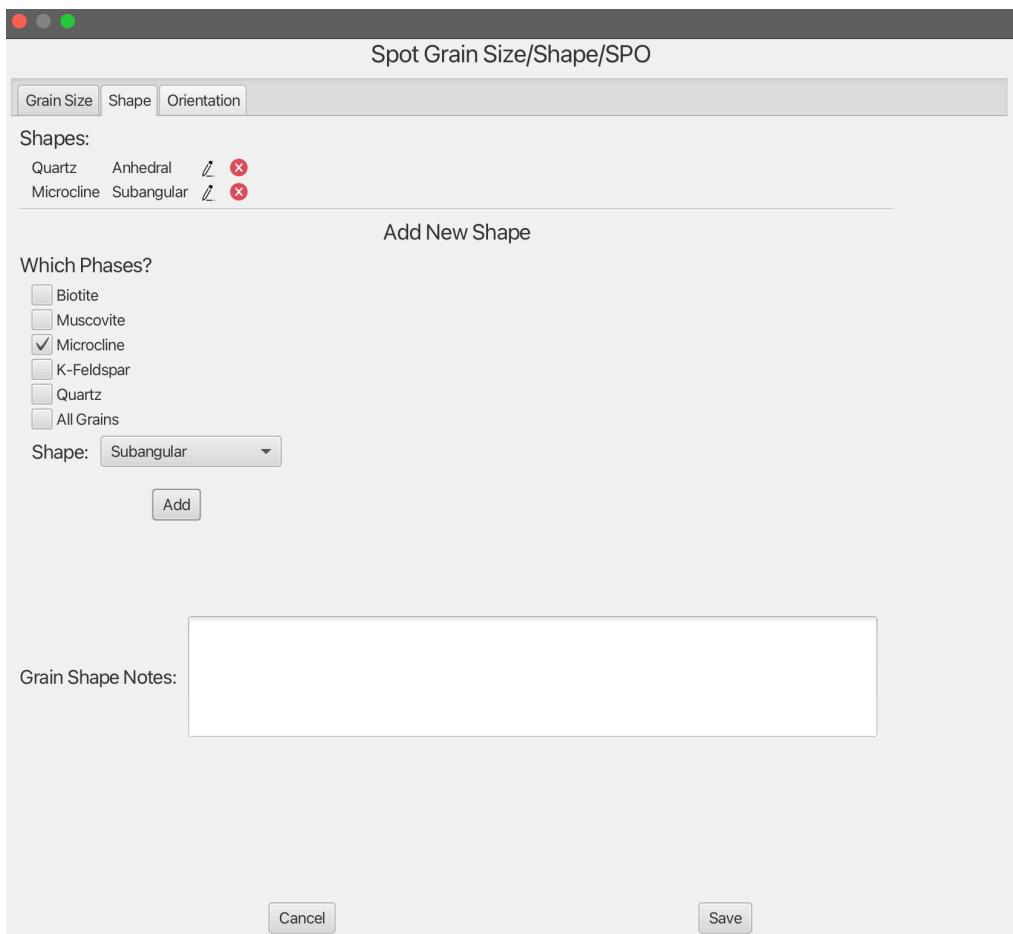

Figure 27: Grain Shape modal showing morphology options.
- **Grain Shape:** Record observed grain morphologies. (See Figure 27.)